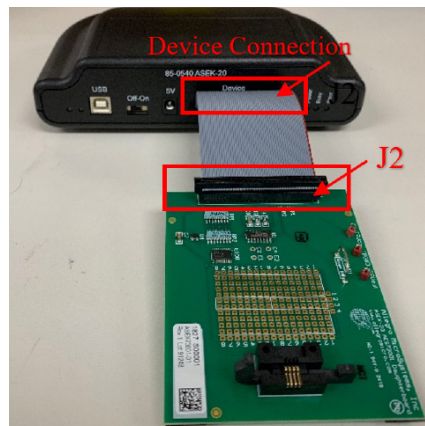

Figure 8: Connection between ASEK-20 and ASEK70311 Daughterboard
- Connect the other end of the ribbon cable to the “Device Connection” port on the ASEK-20 chassis as shown in Figure 8.